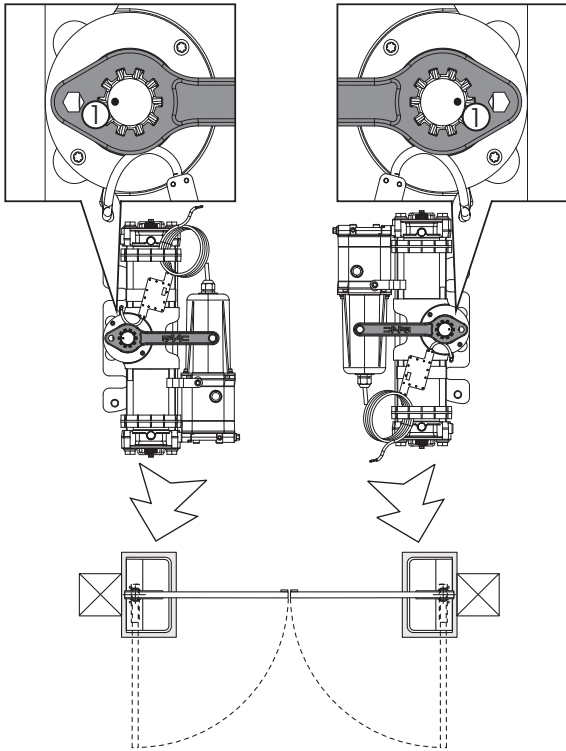

Fig.6
- 6) **Without moving the pinion** insert the supplied key on the operator (**Check the position of the pin on the pinion Fig.6 ref.①**), and if needed turn the pinion to correct it (**Important to correctly couple the pinion-splined bush during installation**).